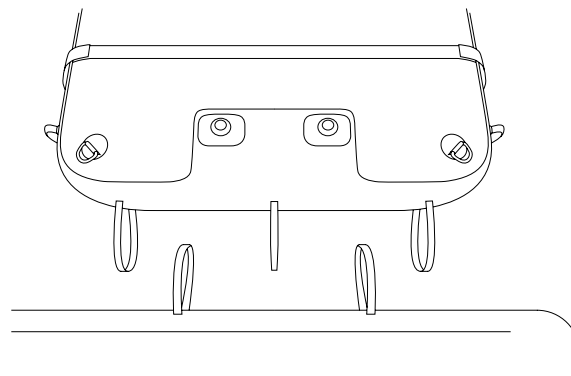

Fig 65 – Correct alignment of Air Toggle loops between the Platforms being connected
3. Ensure the first Platform is secured to the vessel and has the correct side free for correct alignment of the Air Toggle loops. Check that there are two Air Toggle loops on the side of the first Platform and three Air Toggle loops on the end of the 2nd Platform (Fig 65).